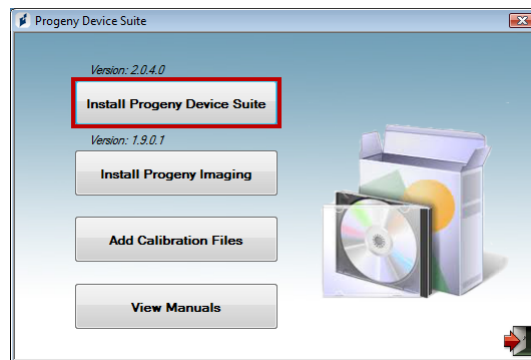

Figure 3: Starting the Progeny Device Suite installation
- Start the installation process by clicking on 'Install Progeny Device Suite' button (Figure 3).